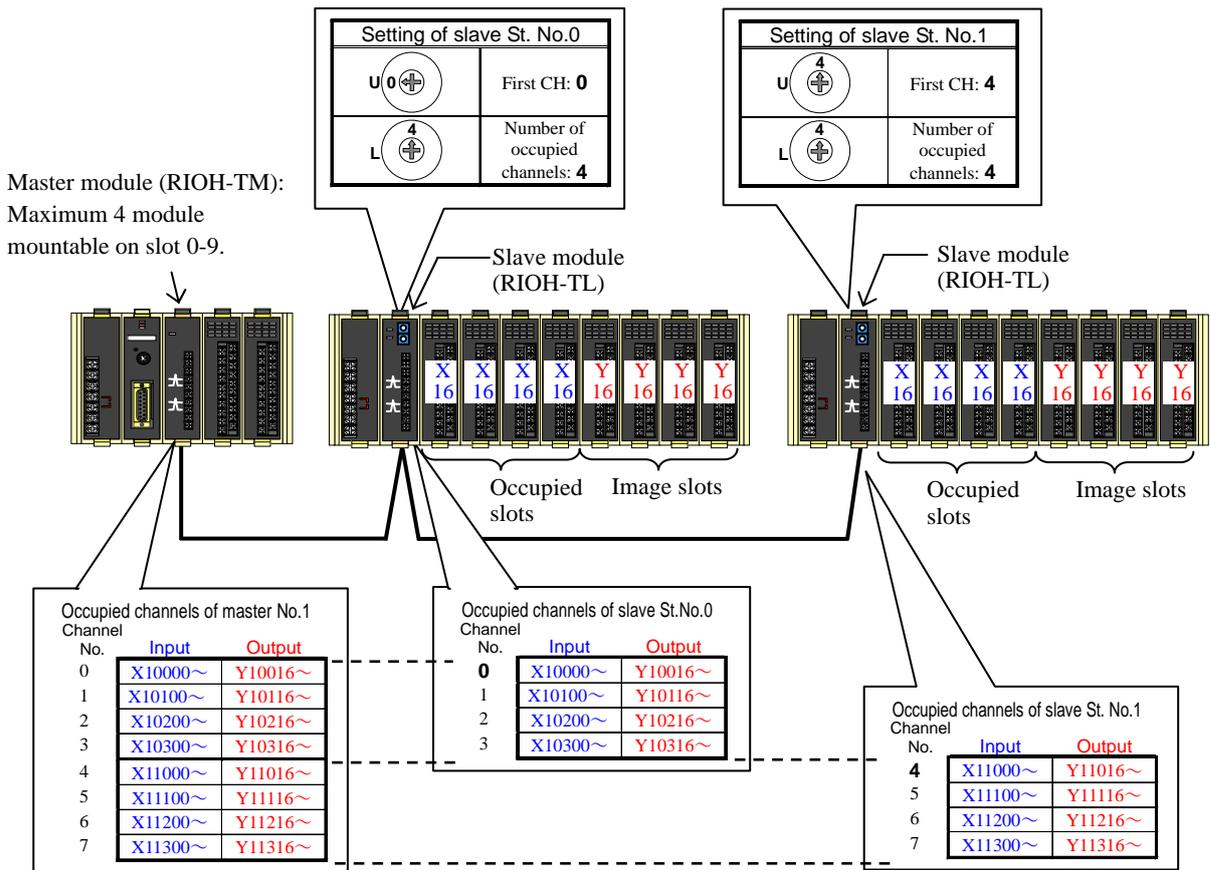
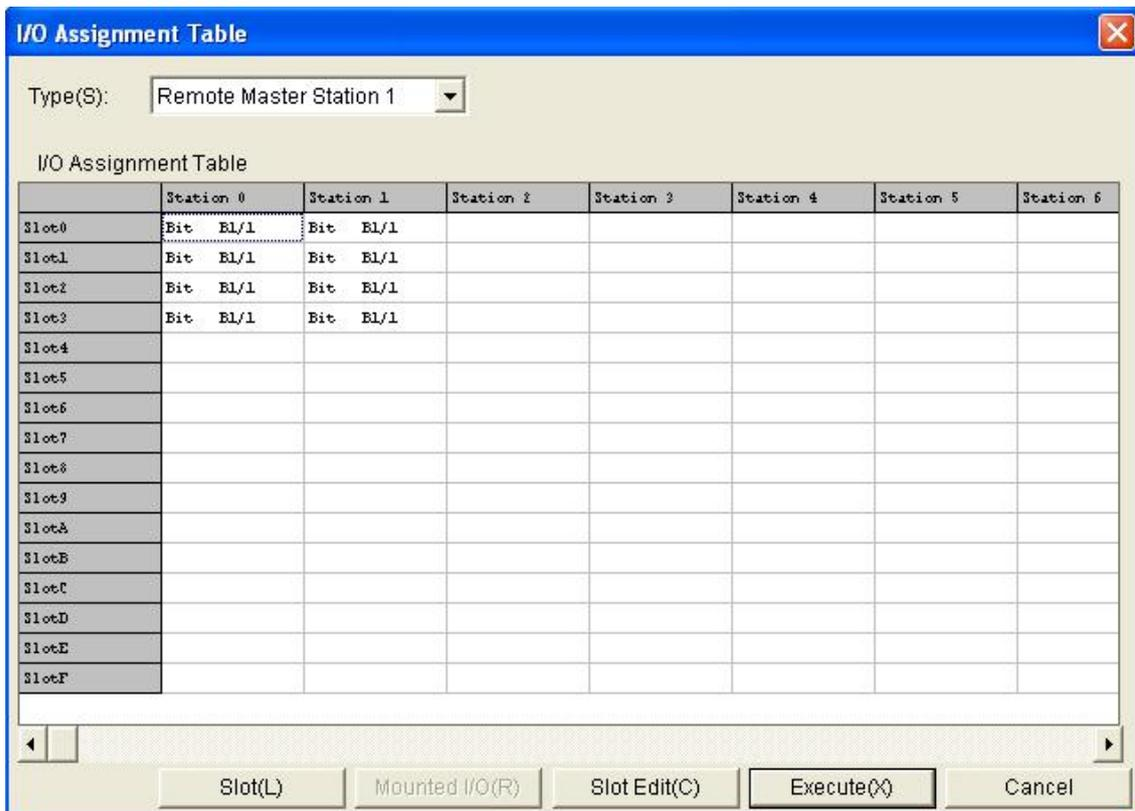
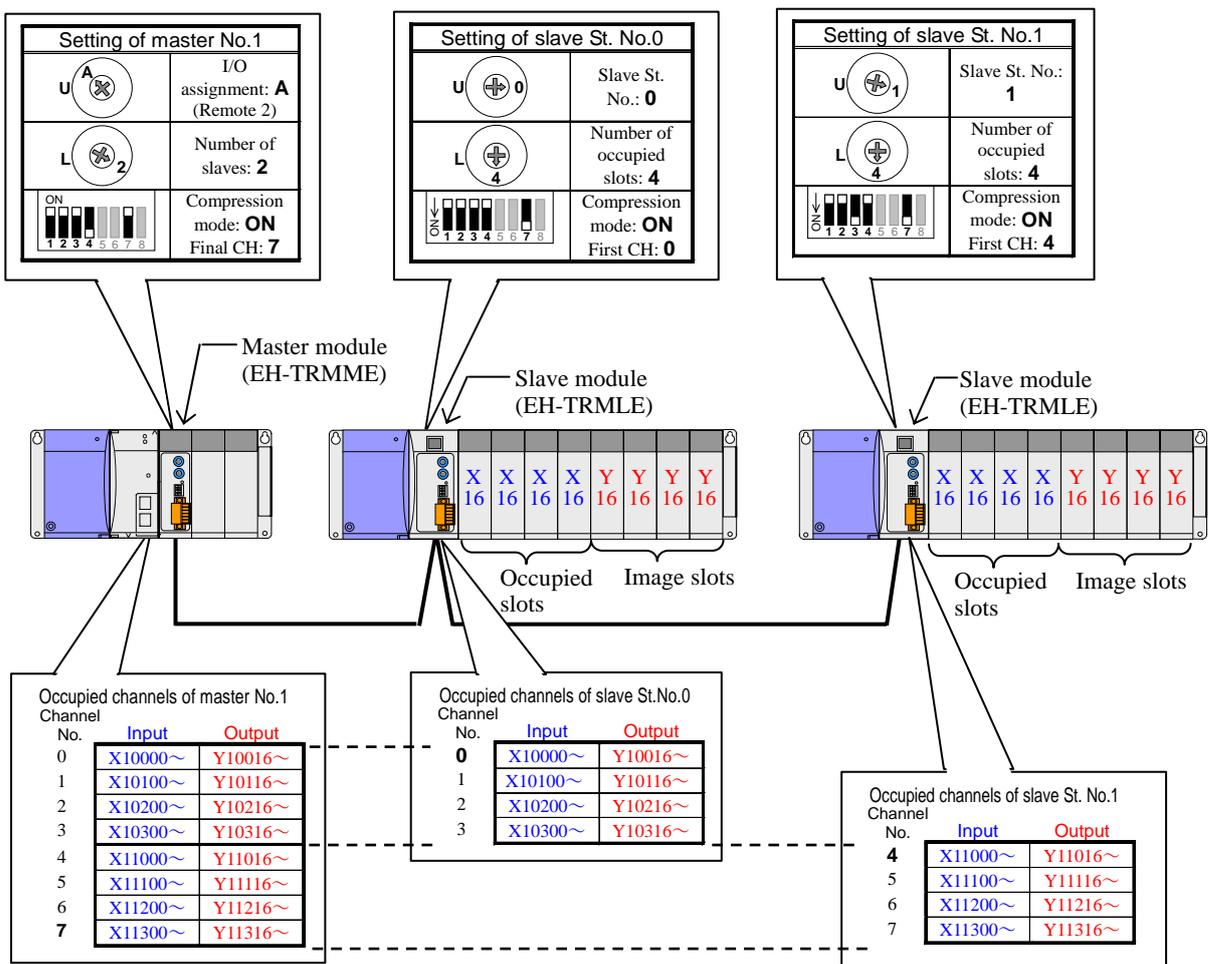

Figure 4.18 System configuration example-5 of the H-200 series (Using image slots)
Figure 4.19 Example of I/O assignment for slave bases (with Ladder editor in system configuration example-5)
Figure 4.20 Replaced system configuration example-6 of the EH-150 (Using image slot)
This system configuration example is shown in Figure 4.18. I/O assignment of this system is shown in Figure 4.19. Figure 4.20 shows the system configuration example replaced to EH-150.
Figure 4.20 is an example of replacing all of master and slave modules with the EH-150 series. It is also possible to leave all or partially slave modules like the H-200 series in order to postpone the wiring work of slaves. In this case, please turn off high-speed refreshing mode (HS) of a front DIP switch of the master module and the slave modules.